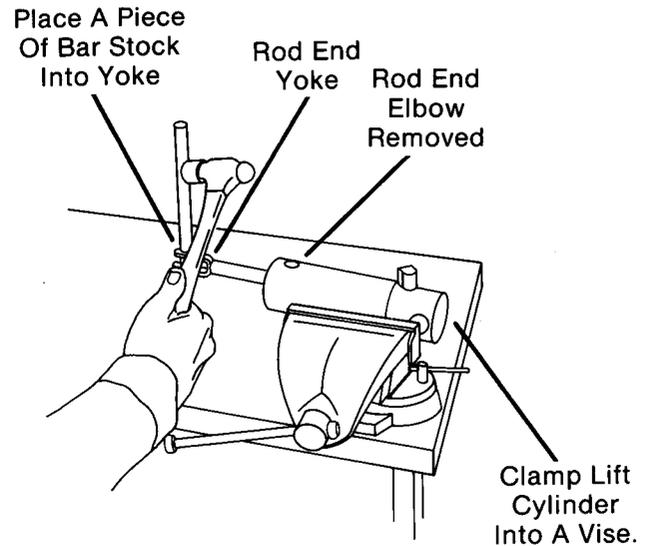

FIG. 91
- I. Clamp cylinder in a vise and put a piece of bar stock into yoke on rod end. Drive rod, piston and rod end out of cylinder. (Fig. 91)